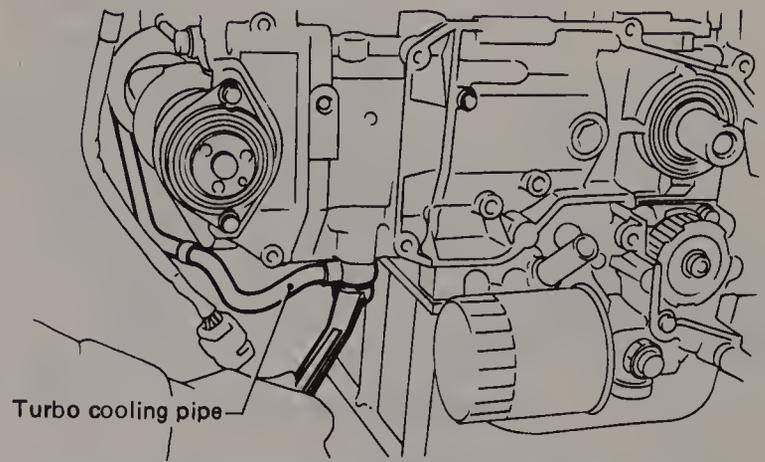

Fig. 13.24 Remove the turbocharger cooling pipe (Sec 5)
- 108 On turbocharged models, remove the turbocharger cooling pipe and union screws and gaskets from the cylinder head (Fig. 13.24).